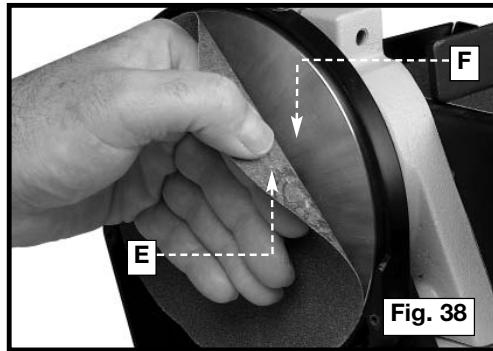

Fig. 38
4. Peel off the old disc (E) Fig. 38.
5. Clean the disc plate (F) Fig 38. Peel the backing from new sanding disc. Press the new sanding disc firmly into position on disc plate (F) and replace the lower cover and table assembly removed in **STEPS 1 and 2**.